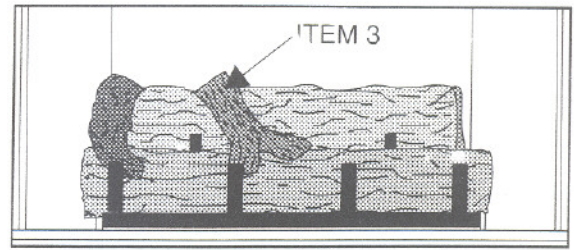

Figure 37
5. See Figure 37. One of the "Y" Logs (Item 3) is installed next. See Figure 1 for identification. The "Y" portion of the log will rest on the Front Log. The "straight" portion of the log will rest on the Back Log. This log is positioned at an angle with the "Y" slightly to the right.